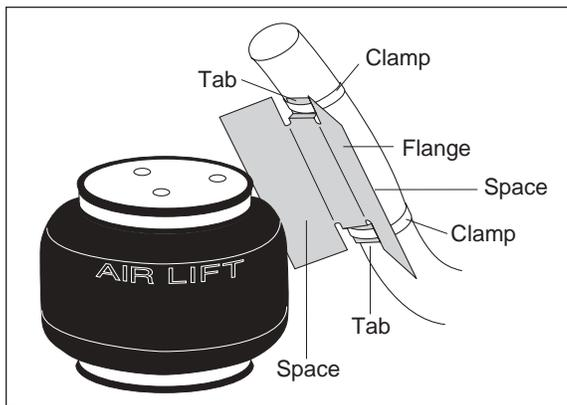

Figure 10
1. Bend tabs to provide a $\frac{1}{2}$ " dead air space between exhaust pipe and heat shield (Figure 10).
2. Attach the heat shield (L) to the exhaust pipe using the provided clamps (N). Bend the heat shield for maximum clearance to the air spring (Figure 10).